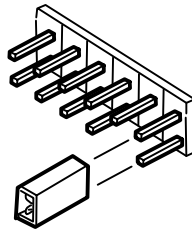

Figure 3-3 Moving a Jumper (Shorting Plug)
2. Locate the position of the system jumpers that you are changing on the I/O riser board. To change a jumper setting, use a pair of needle-nose pliers or your fingers to remove the jumper from its current location, see Figure 3-3. Position the jumper over the two pins for the desired setting and press it onto the pins. Be careful not to bend the pins. Refer to Table 3-4 and Table 3-5 for system jumper settings.